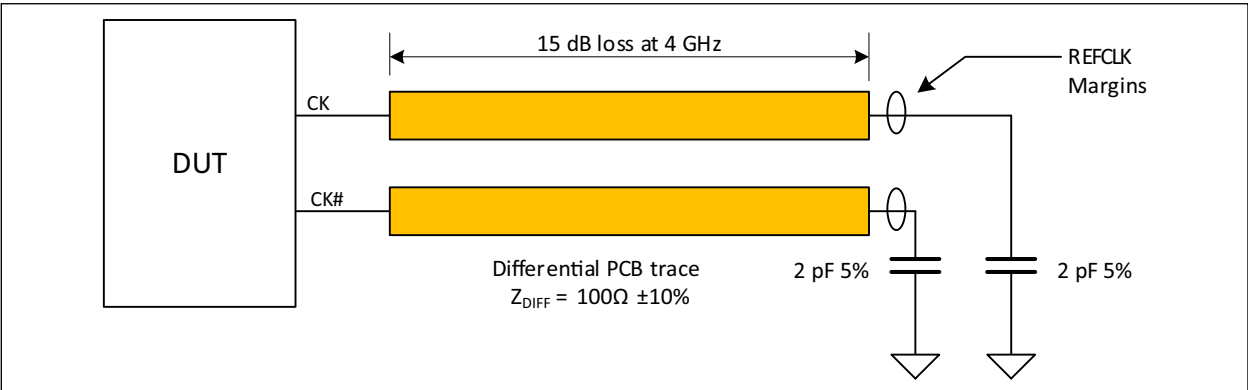

FIGURE 1-7: PCIe Test Load.
- 11:** System board compliance measurements must use the test load card described in Figure 1-7. OUTx_p and OUTx_n are to be measured at the load capacitors C_{LOAD} . Single-ended probes must be used for measurements requiring single-ended measurements. Either single-ended probes with math or differential probe can be used for differential measurements. Test load $C_{LOAD} = 2\text{ pF}$.
- Note 1:** Measured into AC test load as per Figure 1-7.